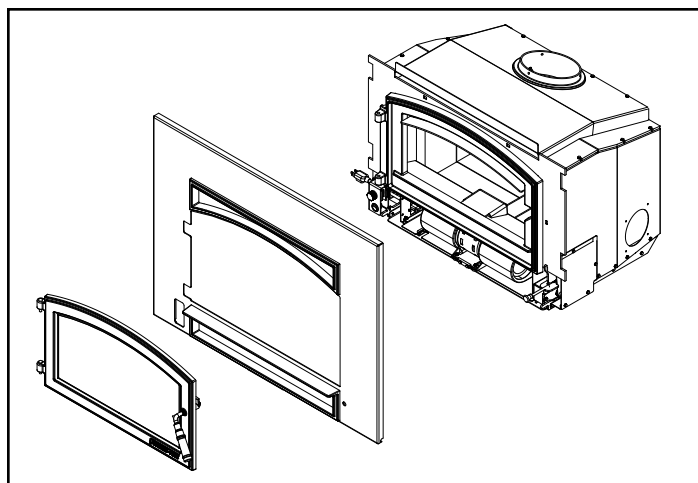

Figure 20.2
2. Remove door from front of appliance and set aside laying it onto a protective surface (**Figure 20.2**).
3. Remove face from front of appliance and set aside laying it onto a protective surface (**Figure 20.2**).
8. Reinstall face to front of appliance (**Figure 20.2** on **page 20**).
9. Reinstall the door to the face of the appliance (**Figure 20.2** on **page 20**).